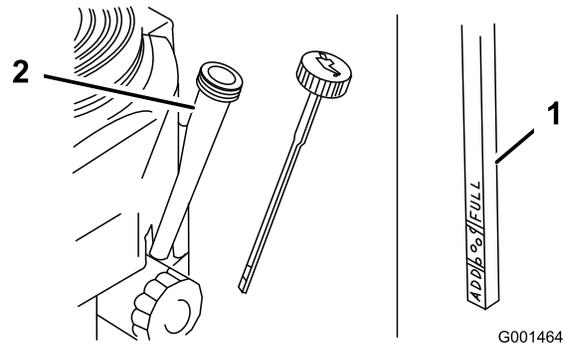

Figure 25
5. Unscrew the oil dipstick and wipe the end clean (Figure 25).
6. Slide the oil dipstick fully into the filler tube, but do not thread onto tube (Figure 25).
4. Clean around the oil dipstick (Figure 25) so that dirt cannot fall into the filler hole and damage the engine.
8. Slowly pour approximately 80% of the specified oil into the filler tube (Figure 25).